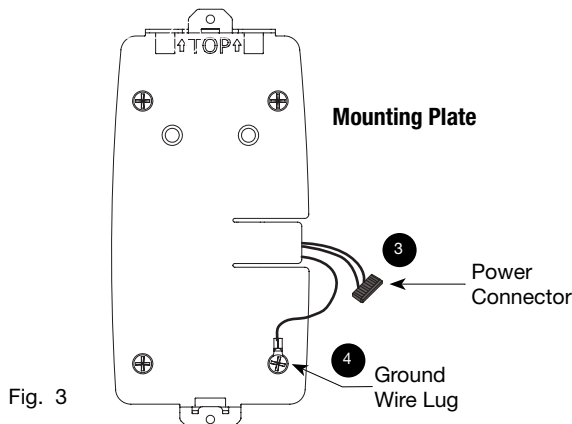

Fig. 3
3. Route connector and ground wire (Fig 3).
4. Fasten ground wire and motor ground wire (Fig. 3).